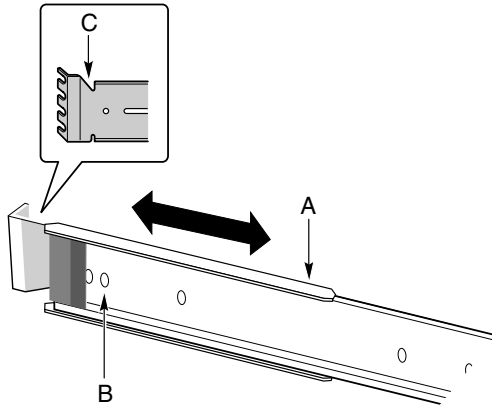

Figure: Step 7
- 7** To attach the rear part of the rail system to the rear rail bracket (A in Figure Step 7), slide the rail system within the rail brackets so that you can place a bolt through the hole in the rail (B in Figure Step 7) and into the rail bracket slot. Loosely tighten the bolt and nut. You should be able to slide the entire rail system back and forth in the rail brackets. When you have centered the rails in the bracket, tighten the fastening bolts and nuts.